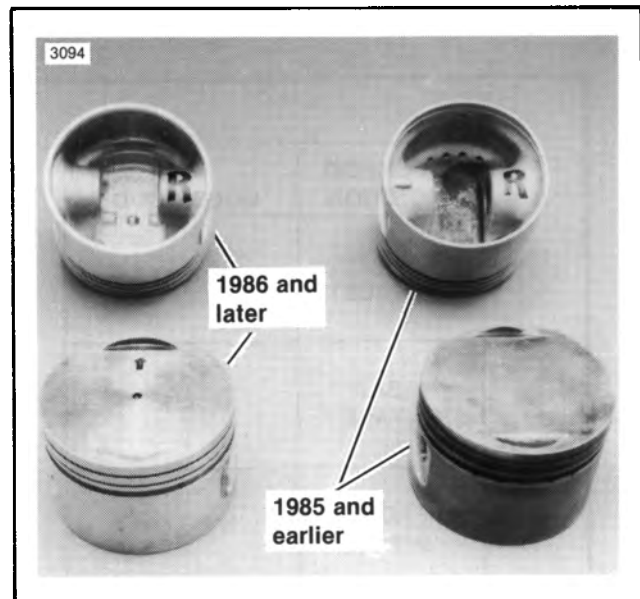

Figure 3-20. Piston Marking
7. See Figure 3-20. Mark the piston by marking an "F" or "R", for front or rear cylinder, on the piston pin boss as shown.
1. See Figure 3-20. Install the pistons. Be sure they are properly oriented front to back. The raised nub or cast-in arrow on the piston pin boss must go to the left (sprocket shaft) side. Install the piston pin retaining rings with the PISTON PIN RETAINING RING INSTALLER, Part No. HD-34623. Be sure the ring groove is clean and that the ring is fully seated in the groove with the gap away from the slot at the bottom.